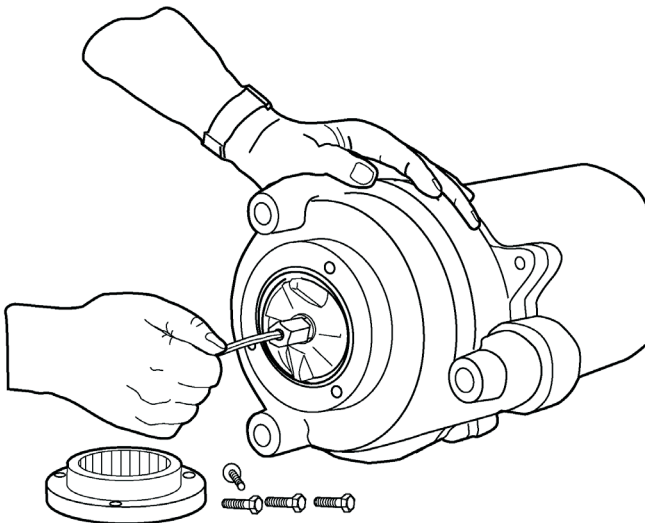

Fig. 3
3. Hold grinder impeller by prying against impeller cutting bar and remove cap screw from end of shaft. See Fig. 3